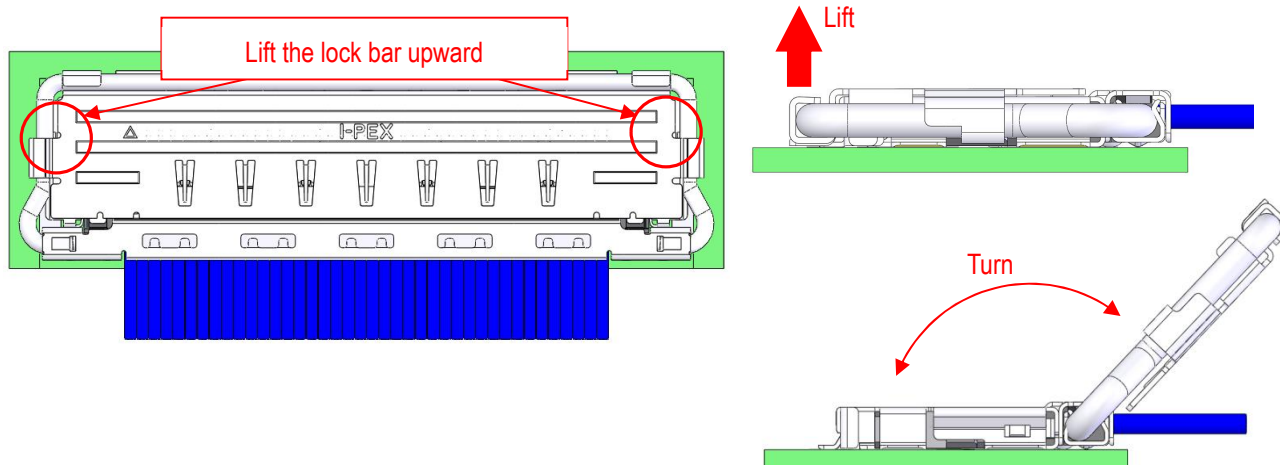

Fig.14
- ① Lift the circled positions of the pull bar upward to release the lock. Then, turn lock bar ass'y as shown in Fig.14.